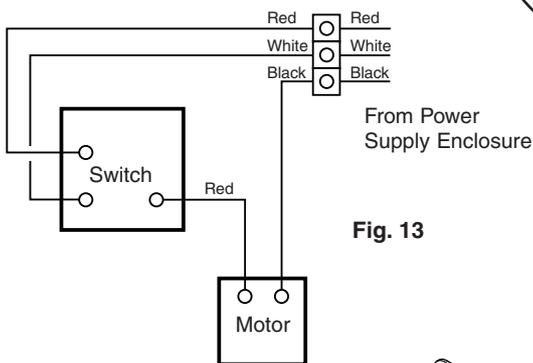

Fig. 13
13. Connect the wires to the terminal block. Connect red to red, white to white and black to black (Fig. 13 & 14).